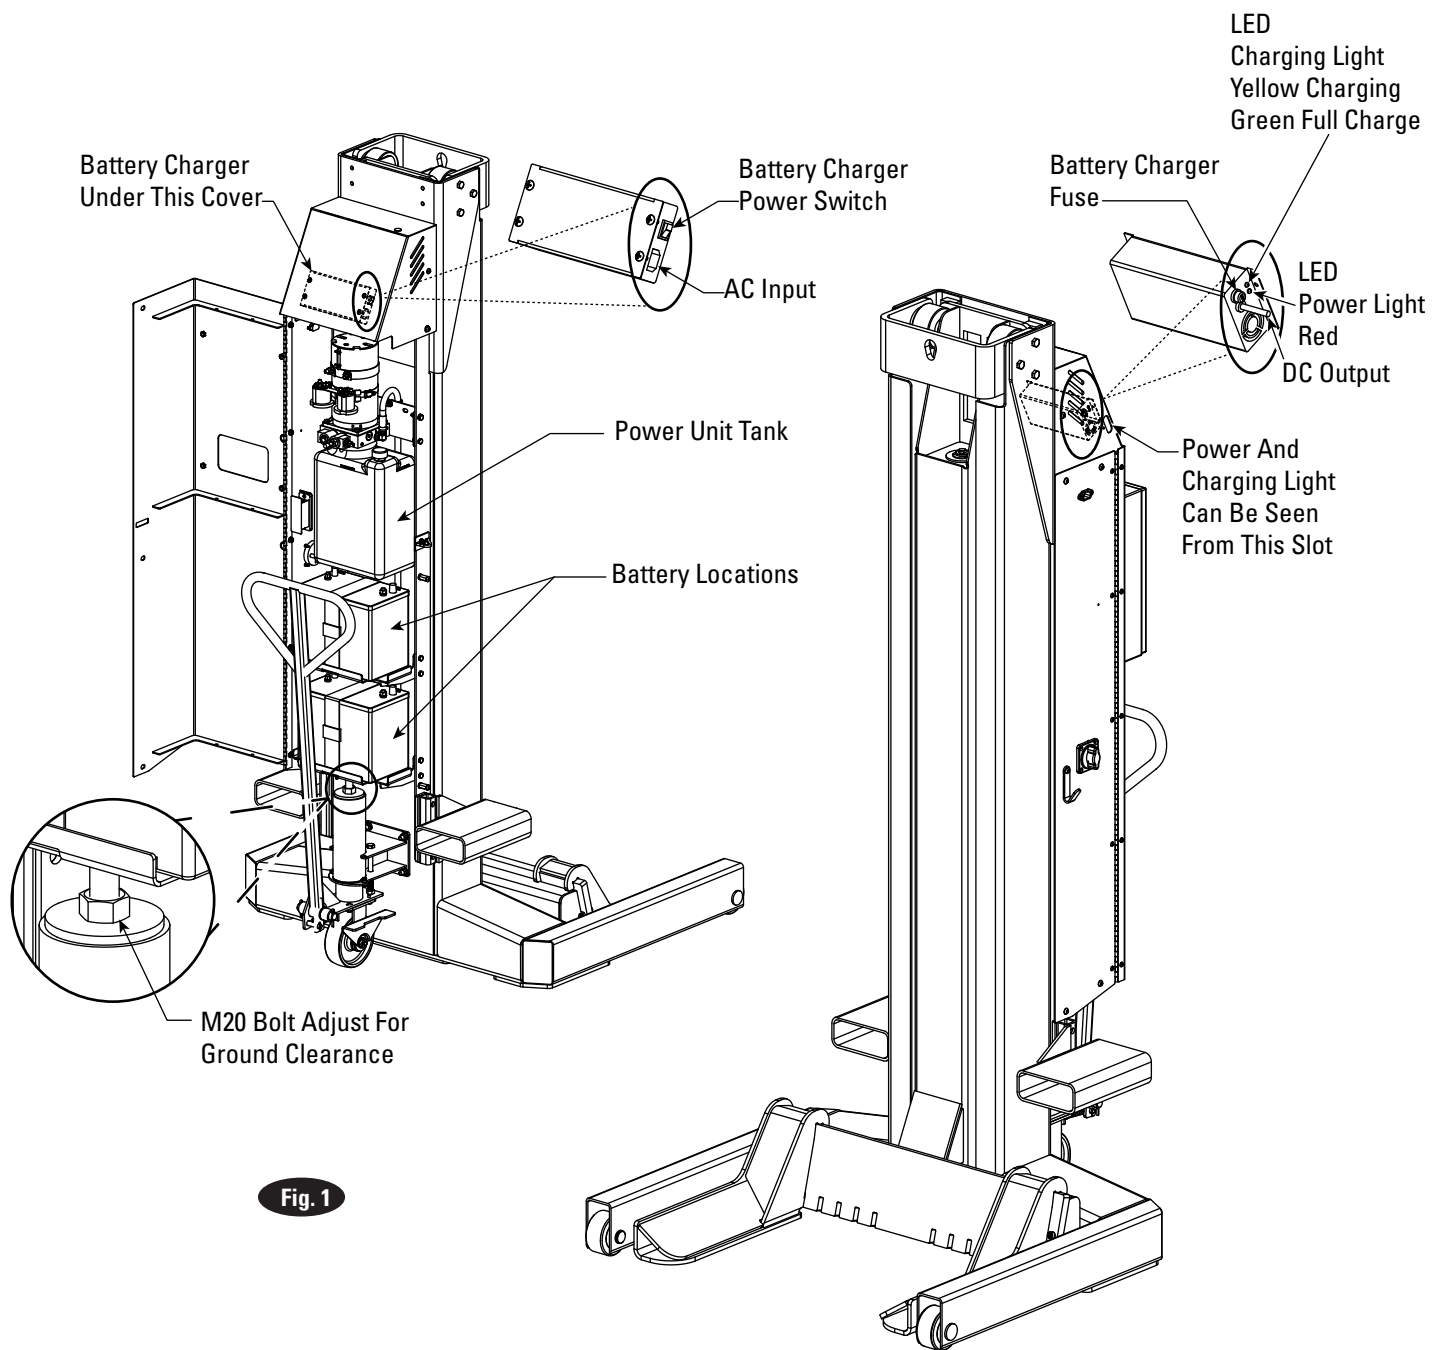

Fig. 1
5. Connect two batteries in location shown, Fig. 1. Different batteries meeting the below specifications may be used but performance can vary.
After the batteries and fluid have been added, screw M20 bolt clockwise on wheel jack to adjust unloaded column ground clearance, Fig. 1. Ground clearance is determined by how far the bolts are turned. When the column is loaded, it will automatically lower to the floor.